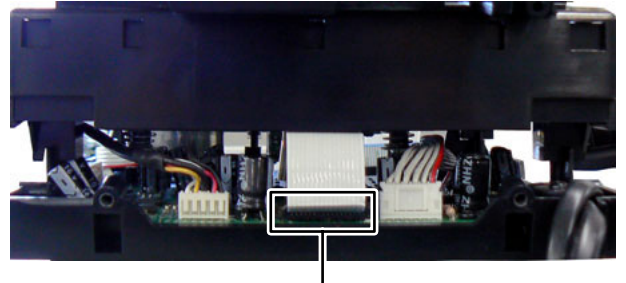

Fig.8
3.1.5 Removing the CD mechanism (See Fig.8 to 10)
- (1) Disconnect the card wire from CD mechanism connected to connector CN102 of the CD board. (See Fig.8)